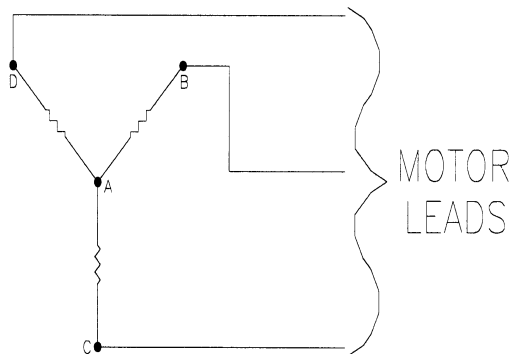

Figure 6.0
5. Connect the three motor leads to a resistor network as per figure 6.0. All three resistors should be the same value.